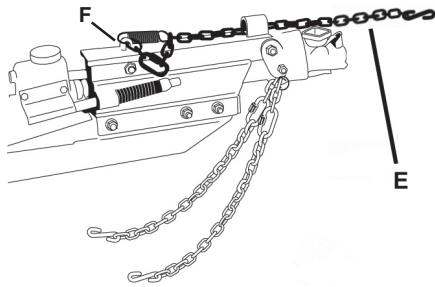

Figure 9
Trailers with brakes have a third chain, called the emergency brake chain (E) (Figure 9). This chain applies the brakes automatically in the unlikely event of a separation of the trailer from the tow vehicle. Attach this chain as close to the vehicle center as possible; to the tow vehicle permanent hitch, “D”-rings, frame or structure, or to the bumper brackets. The “S”-hook on this chain should be hooked to an
**⚠ NEVER** tow the trailer unless the emergency brake lever (F) is in the fully rearward and down position. (Figure 9) See decals also, for proper position of emergency brake lever for towing. The emergency brake chain (E) is attached to the emergency brake lever (F) on top of the hydraulic brake mechanism. When the emergency brake chain is pulled forcefully, the emergency brake lever will move forward and lock, activating the trailer brakes.